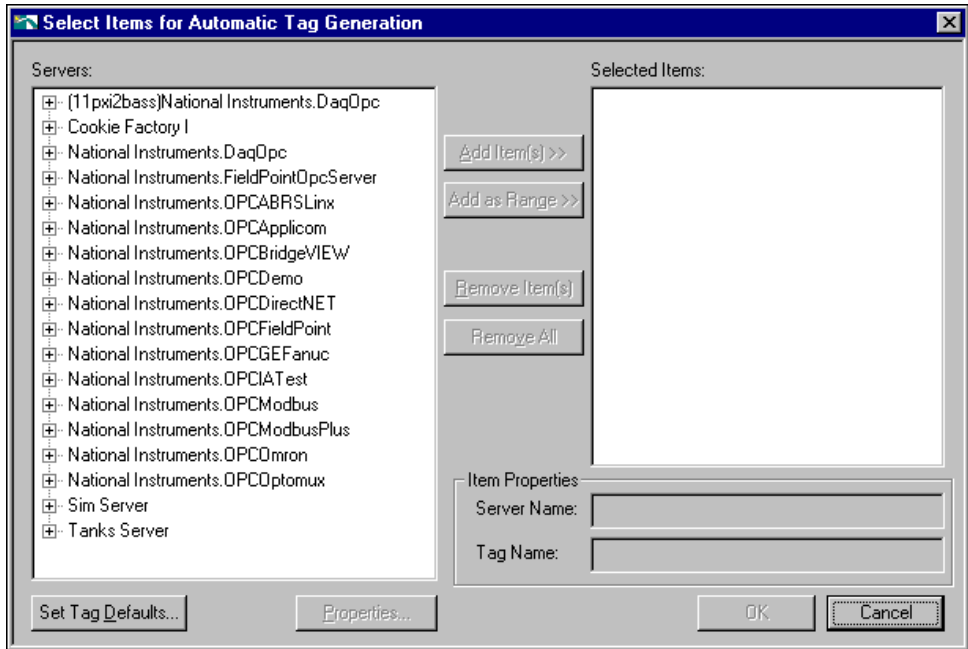

Figure 2-3. Select Items for Automatic Tag Generation Dialog Box
1. Click on the **Configuration Wizard** button in the **Tag Configuration Editor** dialog box. The **Select Items for Automatic Tag Generation** dialog box appears, as shown in Figure 2-3. The **Servers** tree view lists all servers in the system.